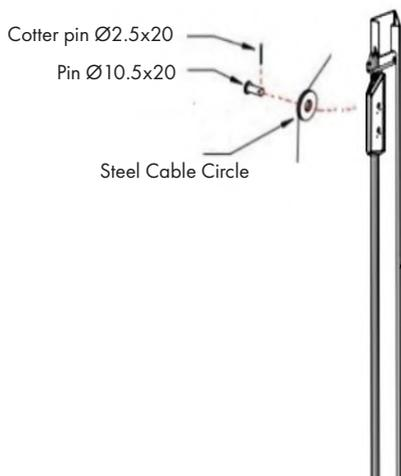

Figure 15
- Take the cable that is wrapped around winch wheel and pass it through the upper section of telescoping unit as indicated in Fig.15.